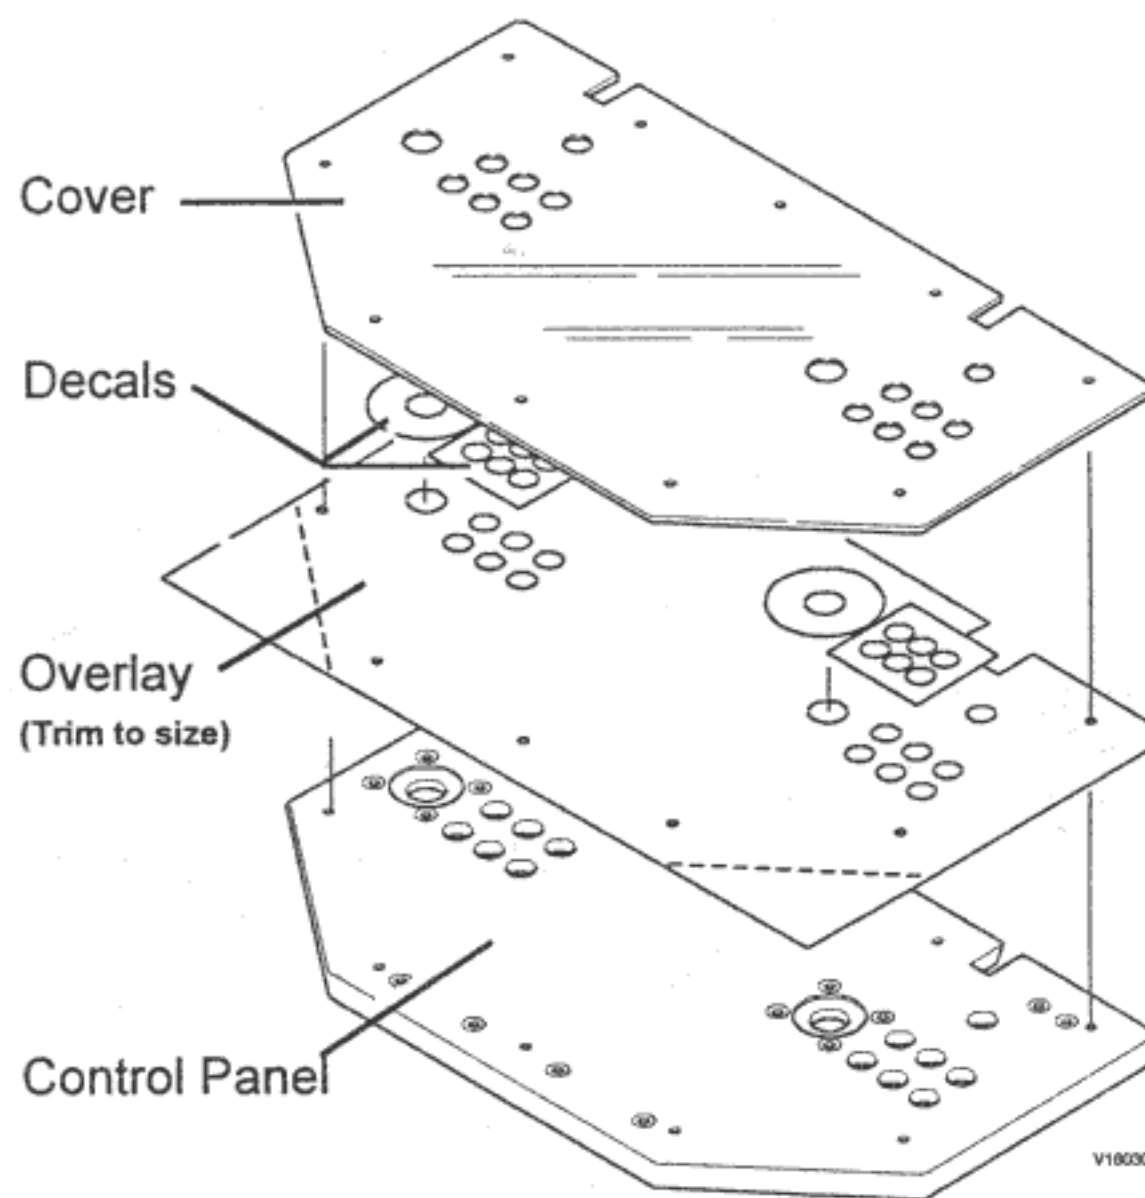

Figure 1: Overlay Installation
6. If there is an additional control panel cover, figure 1 (such as plastic or lexan) that will be utilized, cut any additional holes using the same template.
### Control Panel Overlay Installation (See Figure 1)
14. Install the control panel cover, figure.1. (if required).